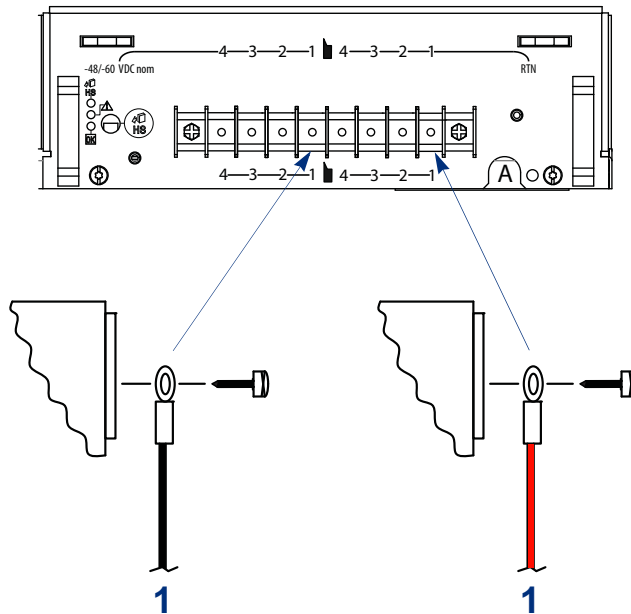

Figure 29. VMG-14, PEM-A output power ring terminal assembly
8. Place the other side of the same set of the #10 ring terminals over the two number 1 slots of PEM-A's output terminal block as seen in Figure 29.